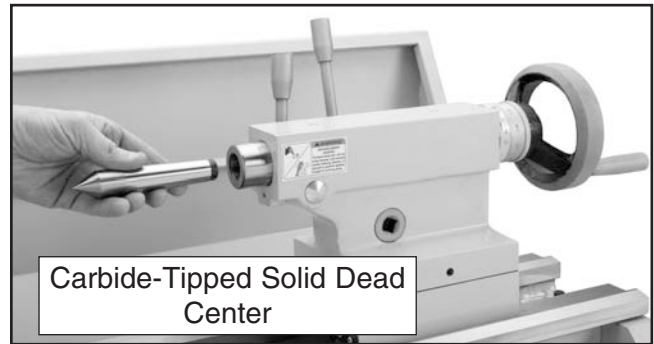

Figure 35. Inserting a carbide-tipped dead center in the tailstock.
2. Feed the quill out about 1", wipe clean and insert the center into the quill bore (see **Figure 35**). To help prevent wear, place a dab of grease on the point of the center.